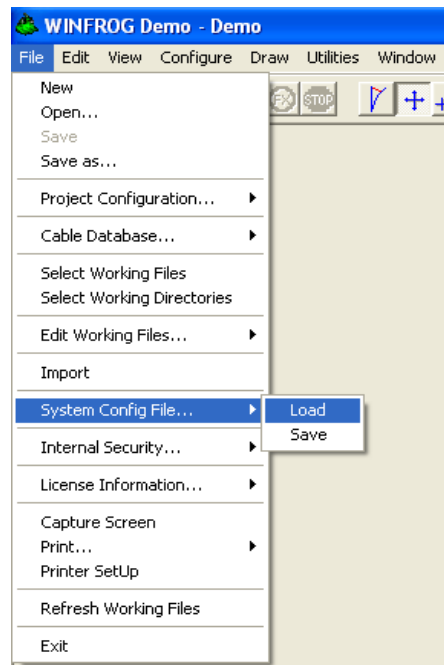

Figure 1
4.2 Go to “File” and “System Config File” > LOAD “default or Customer” .CFG (configuration file). See Figures 1 & 2.